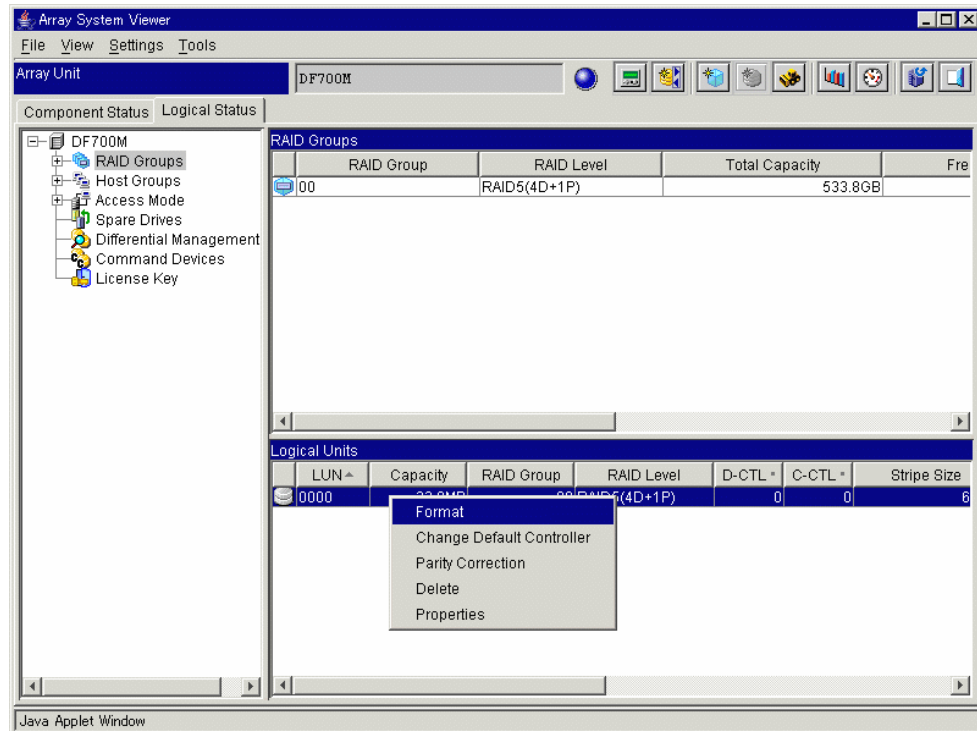

Figure 5.20 Logical Unit - Format
2. Click the logical unit icon on the Array Unit screen. On the context menu of the logical unit icon, select **Format**. See Figure 5.20.